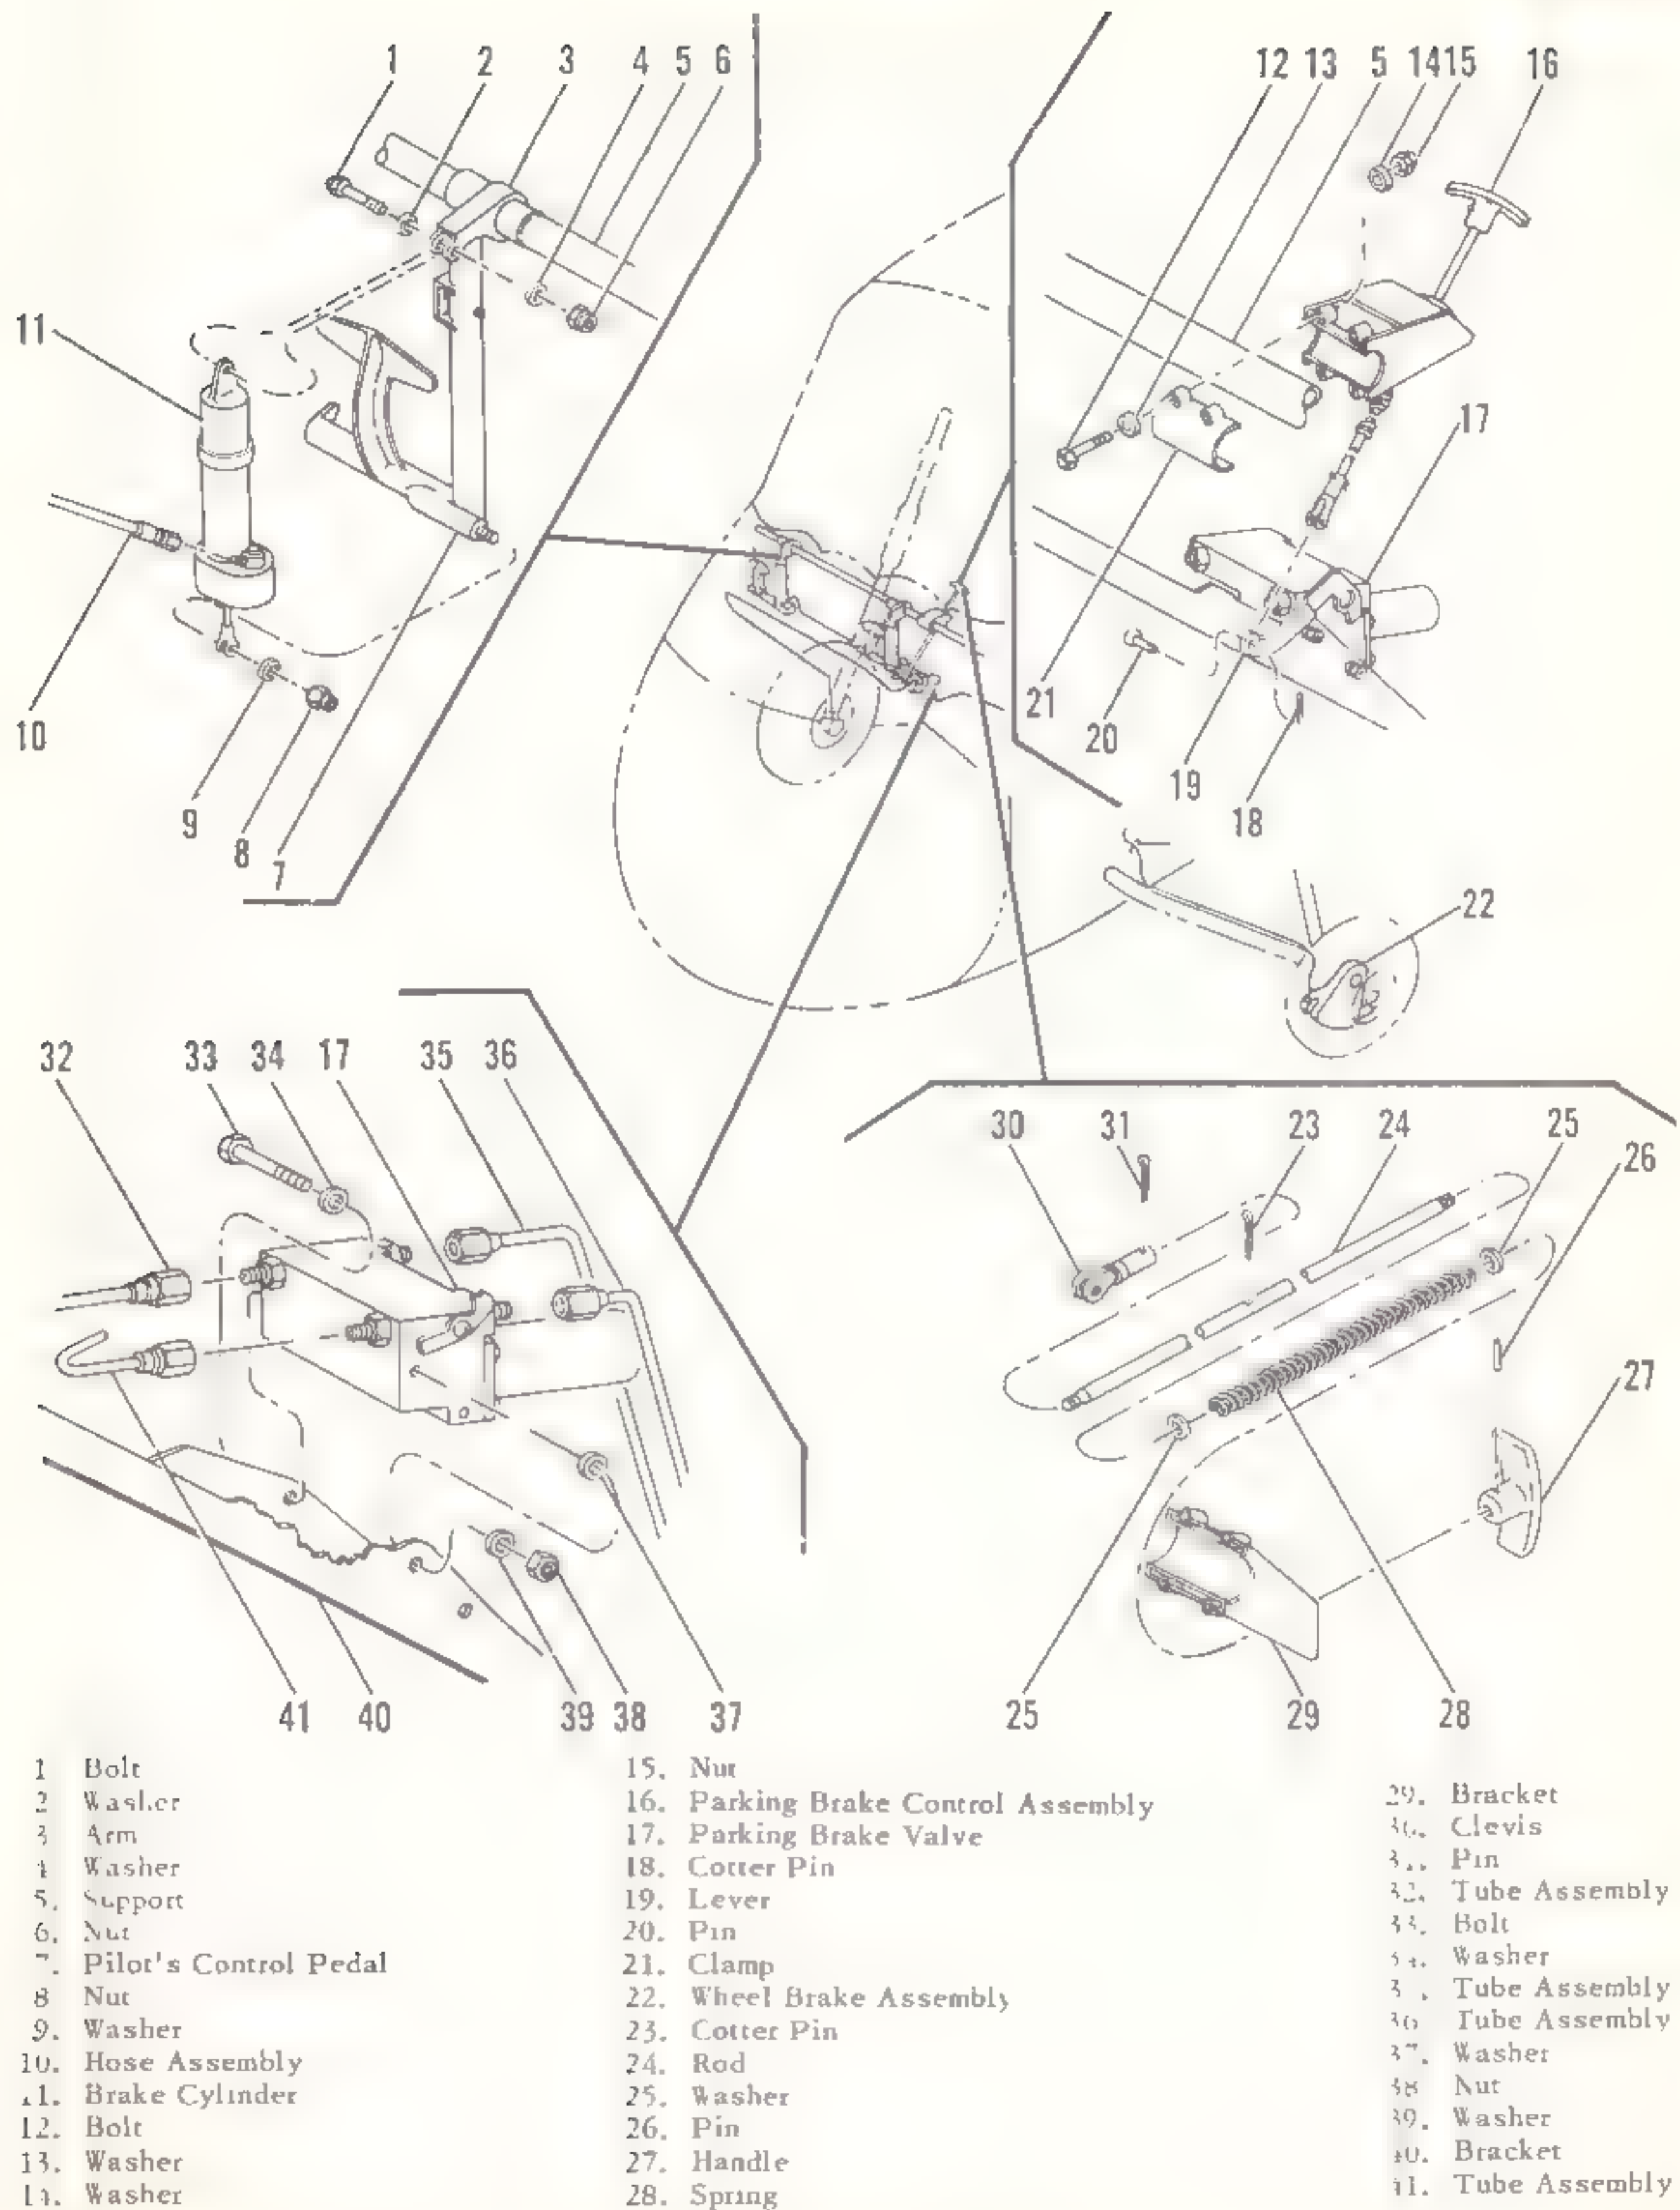

Figure 6-9. Wheel brake hydraulic system
c. Installation. (1) Position fittings (elbows or nipples) in fuselage structure as noted at time of removal and secure with washers and nuts.
(2) Remove caps from ends of tube or hose assemblies and ports of hydraulic components. Blow tube or hose assemblies clear with dry, filtered compressed air.
(3) Place tube or hose assemblies in their respective positions and connect to other tube or hose assemblies or hydraulic components.
(4) Position clamps on tube or hose assemblies and secure with attaching hardware.
(5) Install access covers and plates and close service platforms.
6-38. Wheel Brake Hydraulic System. The wheel brake hydraulic system consists of two brake cylinders (11, figure 6-9), parking brake valve (17), parking brake control assembly (16), wheel brake assembly (22), and hydraulic lines, fittings, and clamps. The brakes are applied by applying pressure to the toe plates on the pilot's control pedals (7). For maintenance of the brake assembly, refer to paragraph 4-77.
- d. Allow hydraulic fluid (item 3, table 1-8) from pressure bleeder tank to flow through wheel brake assembly until hydraulic fluid coming from bleeder plug has no air bubbles.
6-41. *Brake Cylinders.* One brake cylinder (11, figure 6-9) is attached to each pilot's control pedal (7) and arm (3) on support (5). Depressing the toe plate on each pilot's control pedal actuates the piston in the brake cylinder and forces hydraulic fluid under pressure through the hydraulic lines, actuating the wheel brake assembly (22) at each main wheel.
a. *Removal.* (1) Disconnect hose assembly (10, figure 6-9) from each brake cylinder (11) and cap end of hose assembly.
(2) Remove bolt (1), washers (2 and 4), and nut (6) securing upper end of brake cylinder (11) to arm (3).
(3) Remove nut (8) and washer (9) securing lower end of brake cylinder (11) to pilot's control pedal (7).
(4) Remove brake cylinder (11) from aircraft. Remove filler plug and drain hydraulic fluid from brake cylinder. Install filler plug.
b. *Testing.* (1) Fill brake cylinder with hydraulic fluid (item 3, table 1-8).
(2) Insert plug gage into outlet port of brake cylinder.
(3) Pull on rod-end fitting until pressure of 1000 psi is noted on plug gage.
(4) Inspect brake cylinder for any signs of leakage. If leakage occurs, replace brake cylinder.
c. *Cleaning.* Clean brake cylinder with solvent (item 4, table 1-8) and dry with filtered compressed air.
e. *Installation.* (1) Position upper end of brake cylinder (11, figure 6-9) on arm (3) and secure with bolt (1), washers (2 and 4), and nut (6).
(2) Position lower end of brake cylinder (11) on pilot's control pedal (7) and secure with washer (9) and nut (8).
(3) Connect hose assembly (10) to brake cylinder (11).
(4) Bleed and fill wheel brake hydraulic system in accordance with paragraph 6-40.
6-42. *Parking Brake Valve.* The parking brake valve (17, figure 6-9) is mounted on a bracket just forward of the copilot's right control pedal. The function of the parking brake valve is to lock hydraulic fluid under pressure in the hydraulic lines leading to the wheel brake assembly (22) at each main wheel. The parking brake valve is operated by depressing the toe plates on the pilot's control pedals and pulling out on the handle of the parking brake control assembly (16). To release
a. Removal. (1) Remove cotter pin (18, figure 6-9) and pin (20) securing clevis (30) on lever (19) of parking brake valve (17).
(2) Disconnect tube assemblies (32, 35, 36, and 41) from parking brake valve (17). Cap ends of tube assemblies.
(3) Remove bolts (33), washers (34, 37, and 39) and nuts (38) securing parking brake valve on bracket (40).
(4) Remove parking brake valve (17) from bracket (40) and cap open ports of parking brake valve.
b. Cleaning. Clean parking brake valve with solvent (item 4, table 1-8) and dry with filtered compressed air.
c. Inspection. (1) Inspect parking brake valve for crack, dents, and malformed threads.
(2) Inspect lever on parking brake valve for cracks, bends, and security of attachment.
d. Installation. (1) Position parking brake valve (17, figure 6-9) on bracket (40) and secure with bolts (33), washers (34, 37, and 39) and nuts (38). Remove caps from ports of parking brake valve.